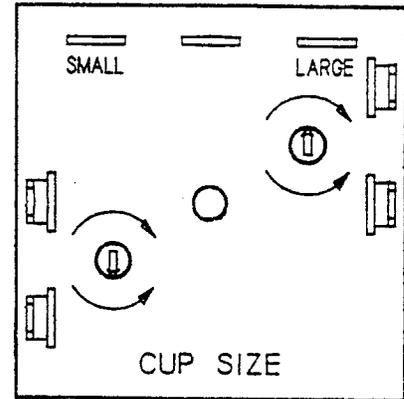

Fig. 2
2. **PORTION CONTROL ADJUSTMENT - (Model CC10 Only)** Adjustments in drink size are made by simply turning the dial on the Universal Timer (see Fig. 2).